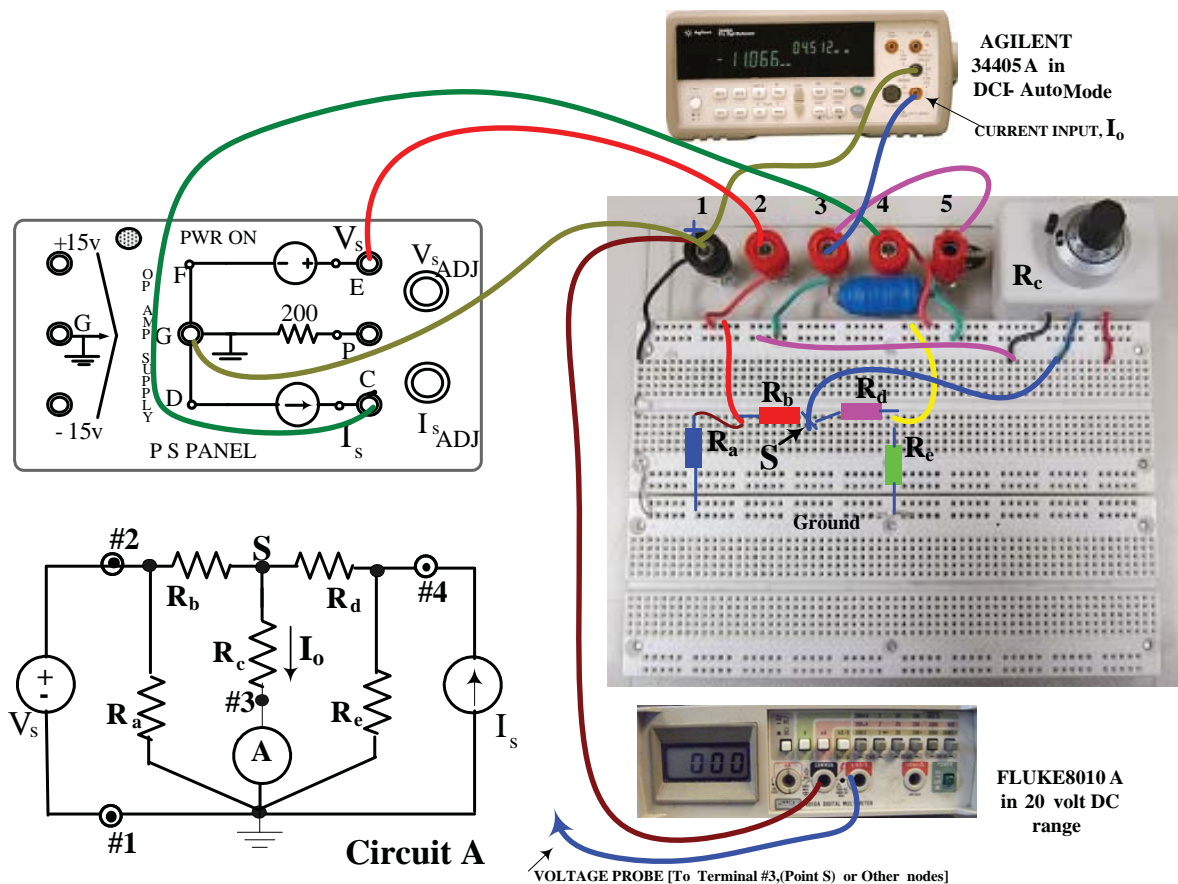

Figure 2.6: Setup for the verification of the Superposition Theorem
1. With the PSP still not turned on, connect the breadboard terminals #1, #2 and #4, respectively, to the ground,  $V_s$  and  $I_s$  supply outputs on the PSP as shown in Figure 2.6. On the PSP, set both output control knobs at 4-to-8 turns from the extreme CCW (minimum) position. This will result in a  $V_s$  output between 4 to 9 Volts and an  $I_s$  output in the range of 20 mA when the PSP is turned on. [The values of  $V_s$  and  $I_s$  obtained are not necessary for the Superposition theorem investigation, but may be calculated from node voltage measurements at points 2, 4 & S].
( $=R_{ZY}$ ) to a specific value between  $200\Omega$  and  $300\Omega$ . This value will be used for  $R_c$  in the test circuit of Figure 2.6.
- 3 . Construct the circuit “A” on the breadboard using the suggested available resistance values. for the other fixed resistors. A suggested layout is shown in Figure 2.6. The layout shown in Figure 2.6 need not be copied exactly by the student, but the variable resistor should be used for  $R_c$ .
Record the various R values used for your reference. When building the circuit, terminals # 1, # 2 and # 4 shown on the circuit must be arranged to correspond with the identically numbered buses (terminals) on the breadboard shown in Figure 2.6 for ease of reference. As shown, the point S is connected through  $R_c$  to terminal #3. The ammeter A (DMM) is connected between terminal #3 and Ground. Terminal #5 should be left unconnected, except for the inductor-shorting link..